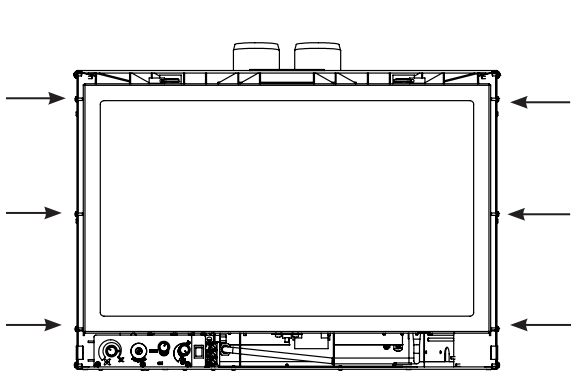

Figure 47: Screw Installation Locations.
1. Install the two Trimmable Panel brackets onto the E30 unit using a T-20 Torx screwdriver. See Figures 47 and 48 for the screw installation locations. There are three sets of hole patterns on the brackets depending on which Surround Panel is being installed. See Figures 47-51.